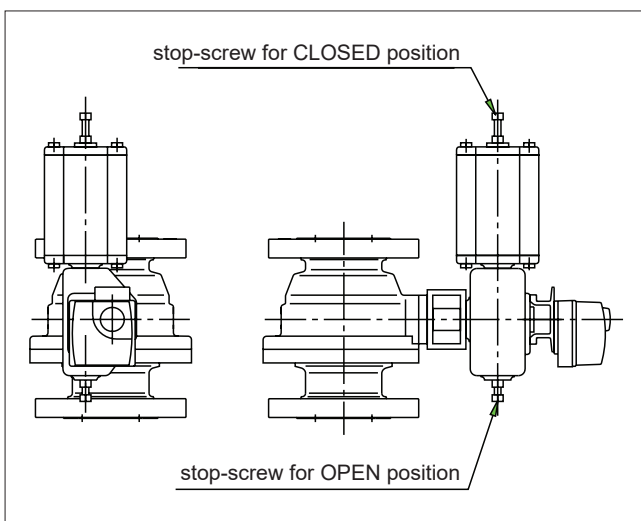

Fig. 15 Open and closed positions of the B1C/B1J actuator
- Adjust the ball open and closed positions by means of the actuator stop screws located at both ends (see Fig. 15). An accurate open position can be seen in the body flow bore. Check that the yellow arrow on the actuator indicates the ball flow opening position. **Keep fingers out of the flow bore!**